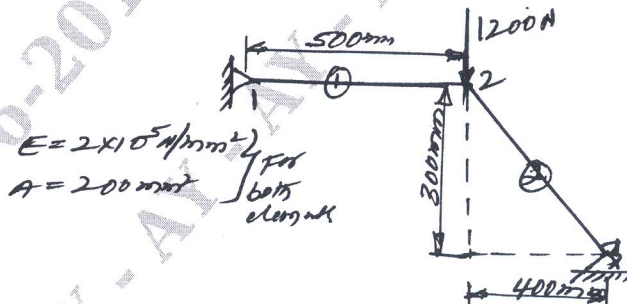

Fig.Q4(b)
- b. For the two-bar truss shown in Fig.Q4(b), determine the displacements, stress in each element and reactions at the support. (10 Marks)